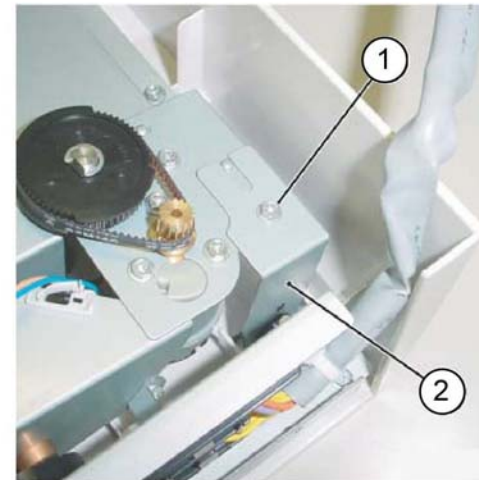

Figure 2 Bracket removal
6. Remove the bracket, Figure 2:
- a. Remove the screw (1).
- b. Remove the bracket (2).